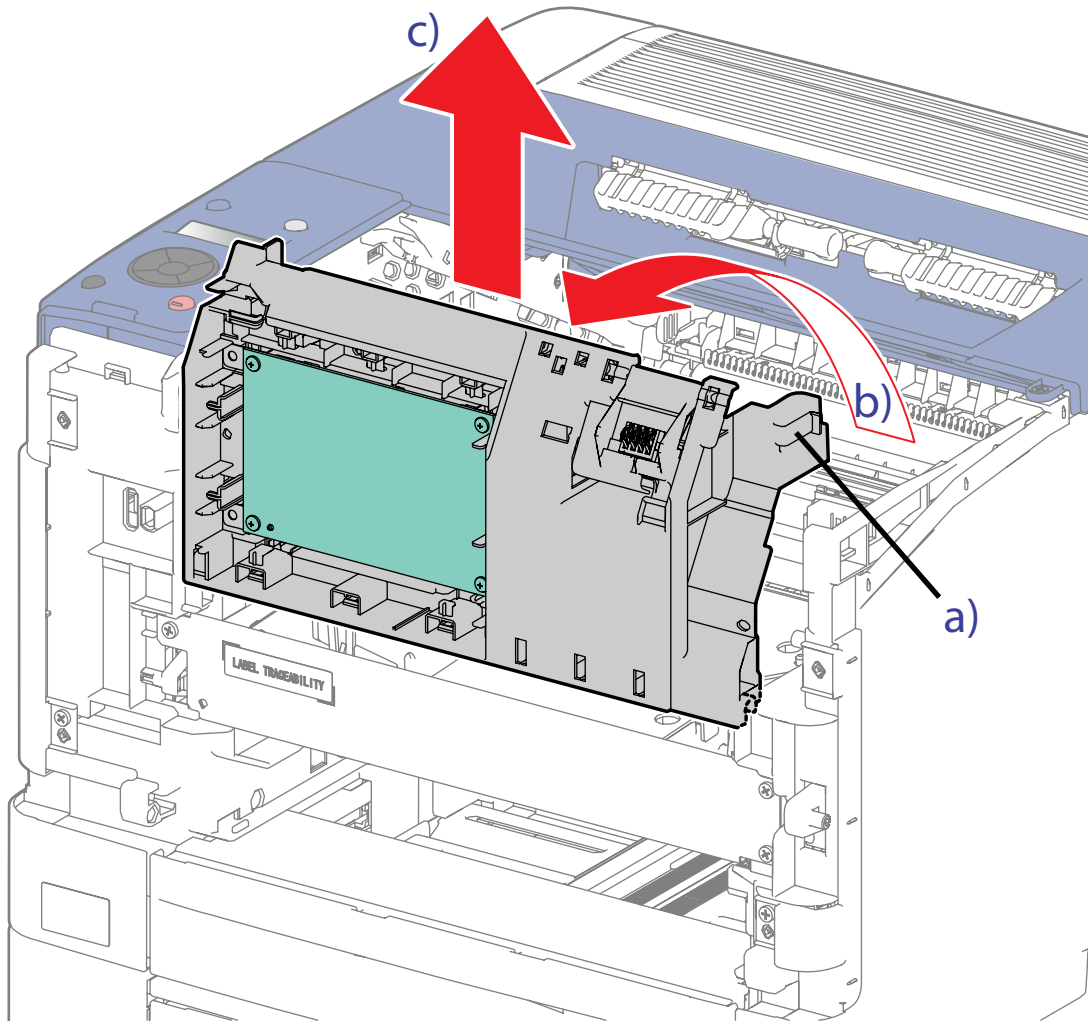

Figure 3
10. Release the MCU Housing. (Figure 3)